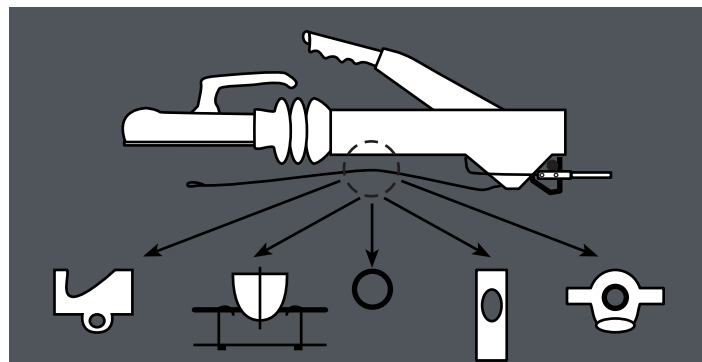

Fig 39 Breakaway Cable Guides
- Thread the breakaway cable through the breakaway cable guide provided (Fig 39) and connect it to attachment point provided on towing bracket (Fig 38). Please refer to 'Braked Trailers Use of Breakaway Cables' for further details.